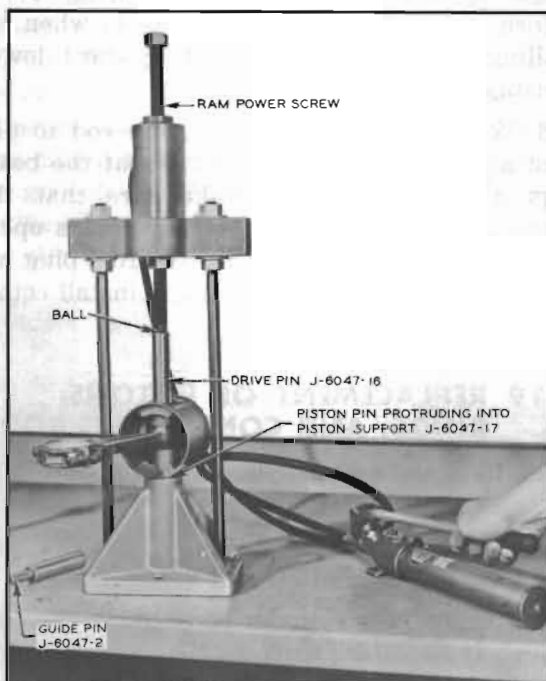

Figure 2-31—Piston Pin Removal
8. Place piston and rod assembly in press, see Figure 2-31. Using Piston Support J-6047-17 (with full radial face up) under the piston, place Drive Pin, J-6047-4 in upper end of piston
pin and press pin from rod and piston. Guide Pin J-6047-16 is not used during pin removal. See Figure 2-31.
12. Insert piston and rod assembly into its cylinder bore with the long guide pin placed above the crankpin. Push the assembly down until the rod bearing seats on crankpin. See figure 2-31.